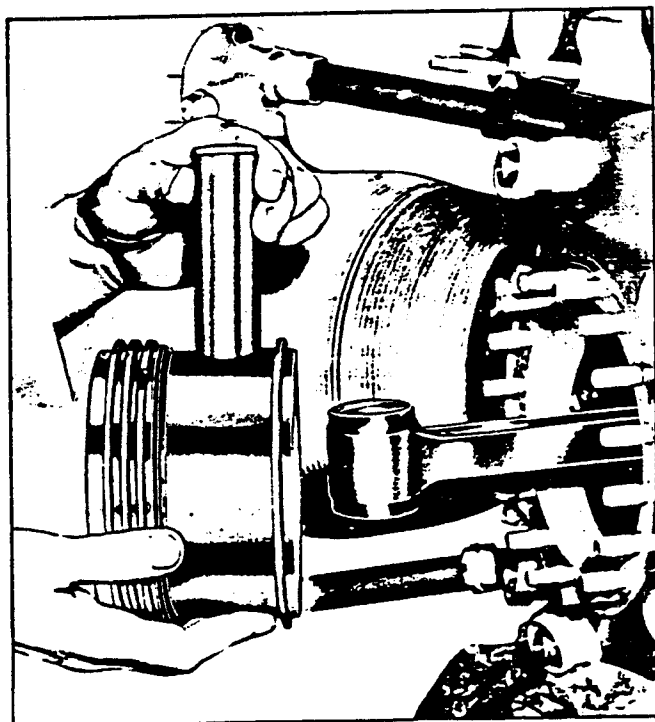

Figure 26. Installing Piston and Piston Pins
a. A position number is marked on the front of the hold-down flange of each cylinder, on the bottom of the skirt of each piston, and on one of the piston pin plugs. Fit the rubber seal ring around the radius under each cylinder hold-down flange and smooth it into place. Coat the piston pin with oil (see figure 26); then install the piston and pin so that the position numbers are toward the front of the engine. Arrange the rings so that the gaps are staggered around the piston.